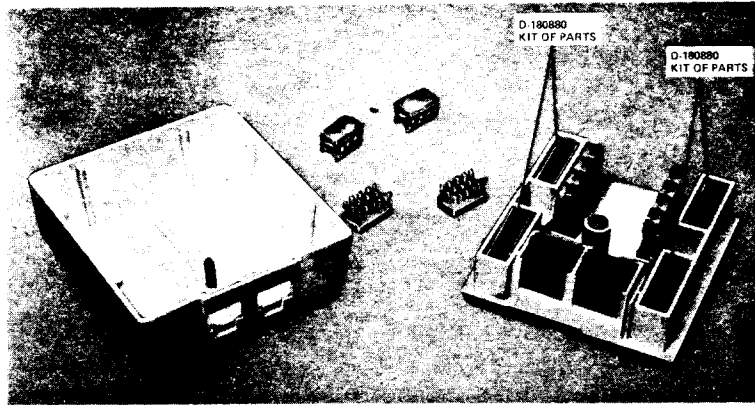

Fig. 9— 104A Connecting Block
2.09 The 104A connecting block (Fig. 9) is used to connect two telephone sets or terminals to the line, either independently or in parallel. It is available in ivory only and consists of a plastic base containing two 8-contact jacks and two 8-position quick-connect fields, four plastic wire-terminating caps (see paragraph 1.03), and a screw-attached cover.